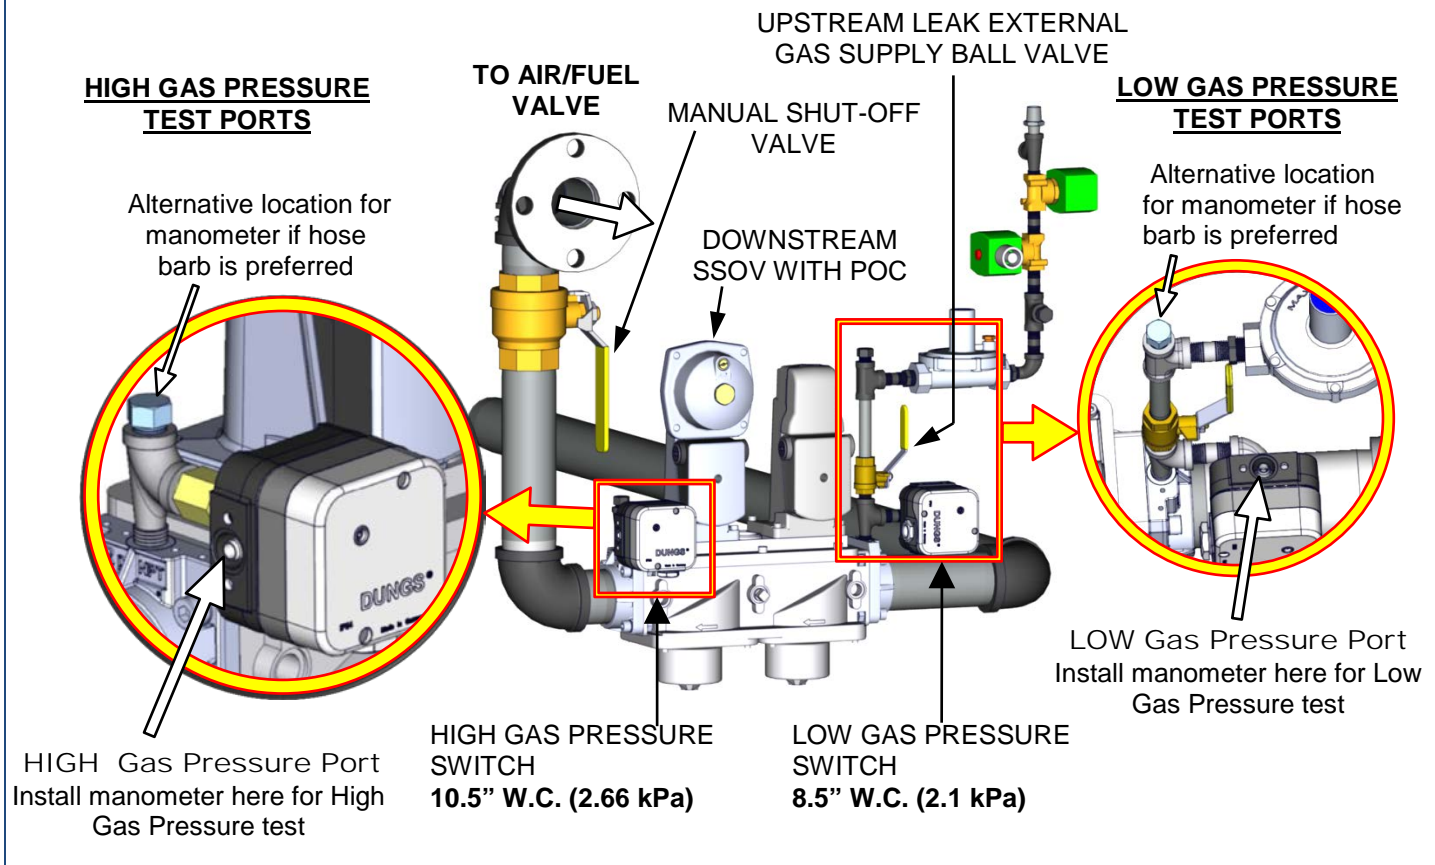

Figure 6-1: Low & High Gas Pressure Switch Locations & Test Point Locations
The steps and pressure setting required to check the Low Gas Pressure switch are described below. This switch is in the normally open (N.O.) position. Refer to Figure 6-1 for the location of the switch and where to connect the water column manometer or gauge when performing the test.
2. Locate the port on the top of the Low Gas Pressure switch (see Figure 6-1) and loosen the screw inside a few turns to open it. Do not remove this screw completely. Alternatively, you can remove the 1/4 inch plug shown in Figure 6-1 and install a hose barb fitting in that location.
To simulate a high gas pressure fault, refer to Figure 6-1, above, and perform the following steps:
1. Locate the port on the side of the High Gas Pressure switch (see Figure 6-1) and loosen the screw in the port a few turns to open it. Do not completely remove the screw. Alternatively, you can remove the 1/4 inch plug shown in Figure 6-1 and install a hose barb fitting in that location.